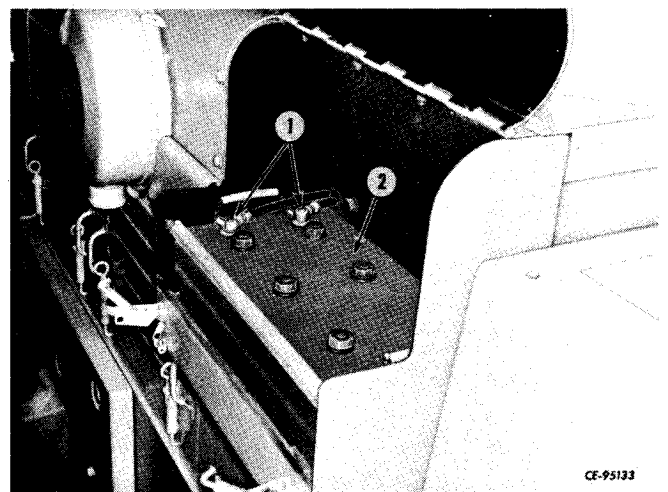

Figure 2-38
Remove battery cables (1, Fig. 2-38) from batteries (2) on each side of the unit. Remove ground cable first.